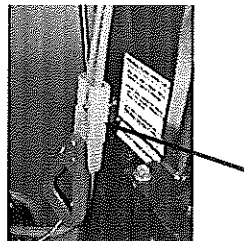

Figure 2
3. Open the left hand cover and locate the battery quick disconnect cable and separate the bottom half from the top half. See Figure 2.